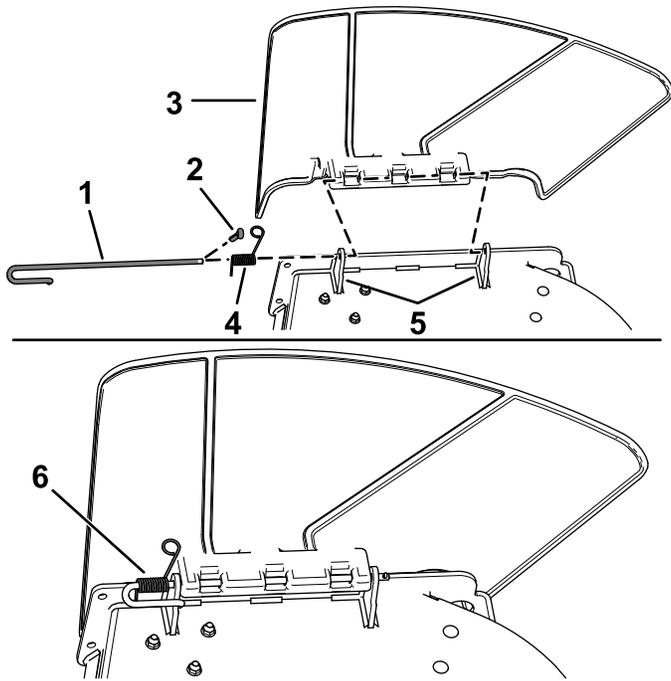

Figure 6
1. Disengage the spring from the notch in the deflector bracket and remove the cotter pin (CE models only), slide the rod out of the welded deck brackets, spring, and discharge deflector (Figure 6).
2. Remove the deflector (Figure 6).